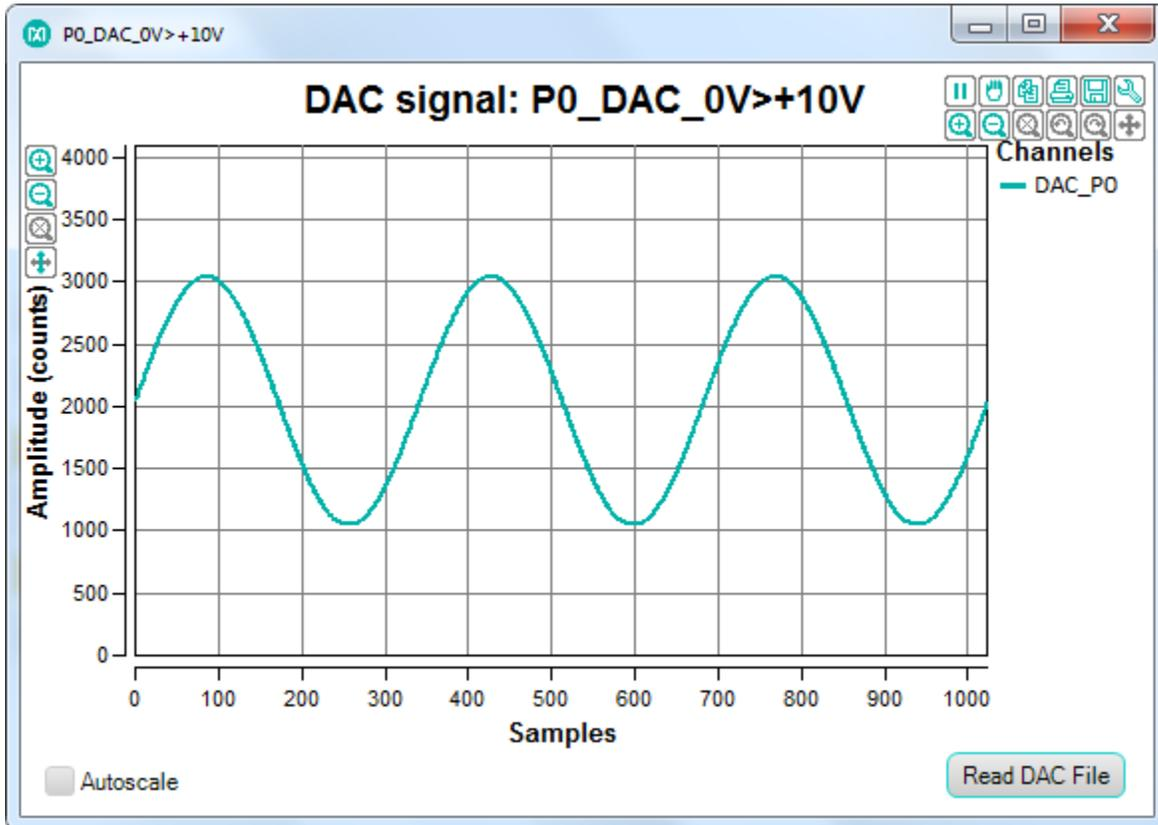

Figure 23. P0\_DAC\_0V>+10V plot window.
1. Under **Plot Windows** in the drop-down menu at the top right, select **P0\_DAC\_0V>+10V** and **Get plot box**. A small plot window appears on the screen as shown in **Figure 23**. Click **Read DAC File** and select an analog data point file called **ideal\_sine\_1000\_3x.adc**.